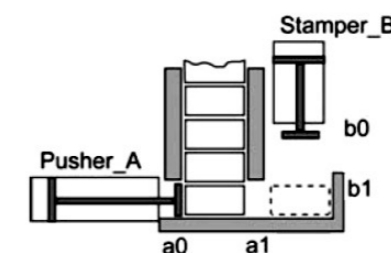

Figure 1
(b) Figure 1 shows the pneumatic activated stamping machine. First cylinder A extends and brings under stamping station where cylinder B is located. Cylinder B then extends and stamps the job. Cylinder A can return back only when cylinder B has fully retracted. Design a pneumatic circuit using cascade method. (14) 2 4